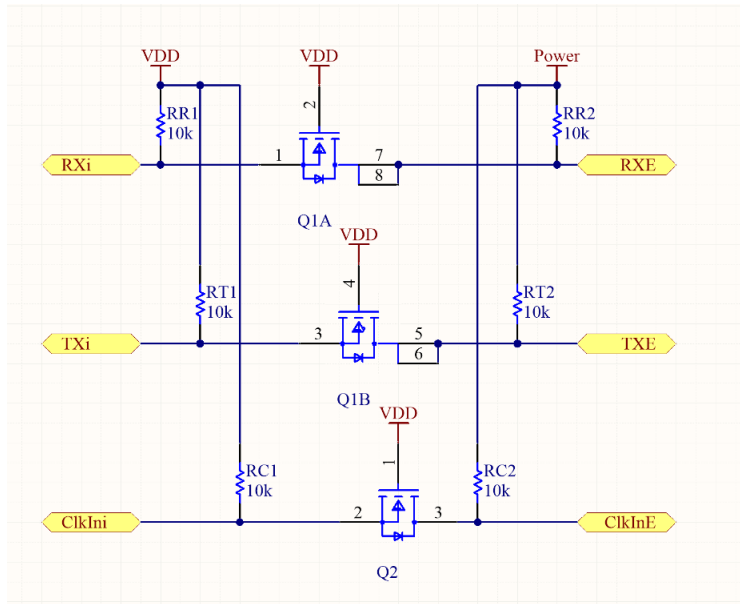

Figure 3-1: Communication Level Shifter Schematic
1. Neither side is pulled low and because the voltage difference between the Gate (pin 2 on Q1A in Fig 3-1.) and the Source (pin 1 on Q1A in Fig 3-1.) is below the threshold voltage of the MOS-FET the device does not conduct. Neither side is transmitting data.
2. Data is being sent by the Transducer and it's microcontroller drives the Source (pin 1 on Q1A in Fig 3-1.) low during communication. When the Source Pin is driven low, the voltage difference between the Gate (pin 2 on Q1A in Fig 3-1.) and the source pin becomes equal to VDD (the operating voltage of the Transducer) and if VDD is greater than the threshold voltage of the MOS-FET the MOS-FET conducts which then drives the Drain (pins 7 and 8 on Q1A) low.